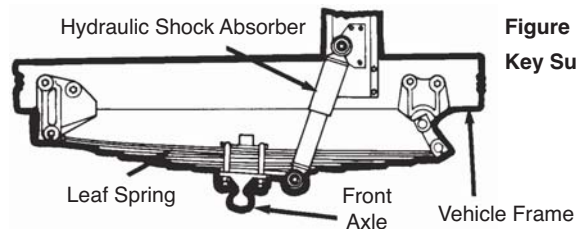

Figure 2.2
- Spring hangers that allow movement of the axle from proper position. (See Figure 2.2.)